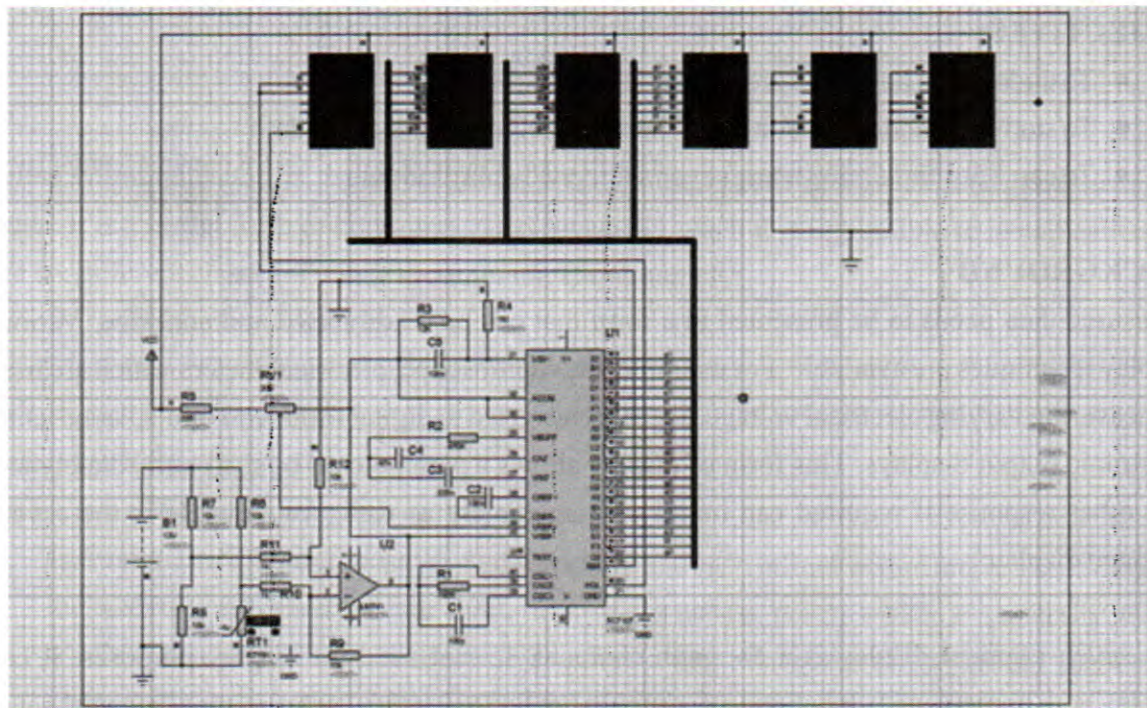

Figure 5.2: Circuit Diagram to display Measured Variable
- I. Describe the ICL7107 architecture for the Seven Segment Display as shown in Fig. 5.2.